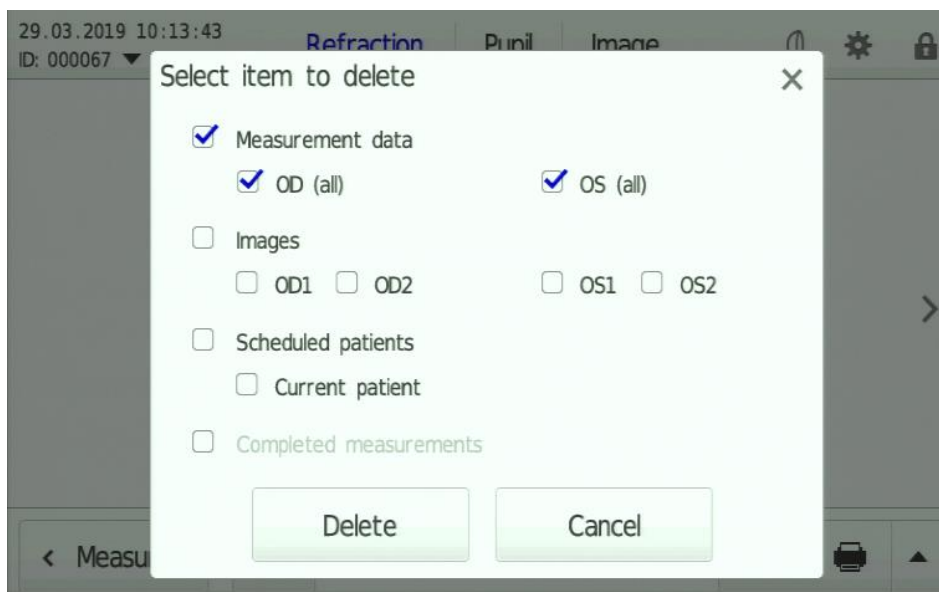

Fig. 55 Delete pop-up window with preselection of data to be deleted
- Then click the **Delete** button. A pop-up window will open to preselect the data to be deleted in the corresponding context (Fig. 55).